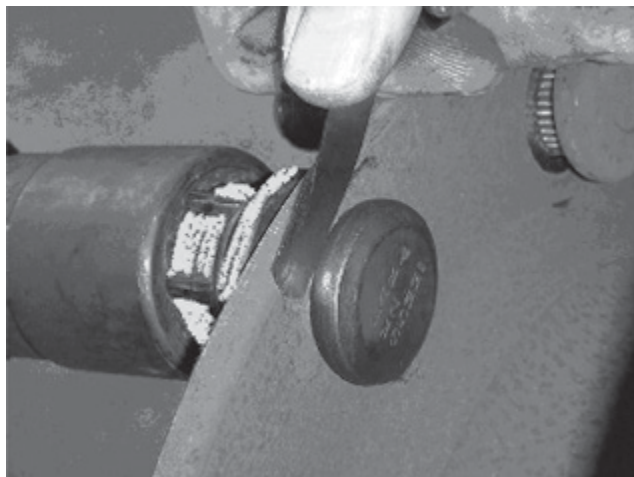

Figure 7: Checking stud installation
- Check** stud installation with a 0.0015 inch feeler gauge (Figure 7) to make sure the bolt is seated.
7. Check stud installation with a 0.0015 inch feeler gauge (Figure 7) to ensure the stud is fully seated. If the feeler gauge indicates the stud has not fully seated, repeat steps 5 and 6.